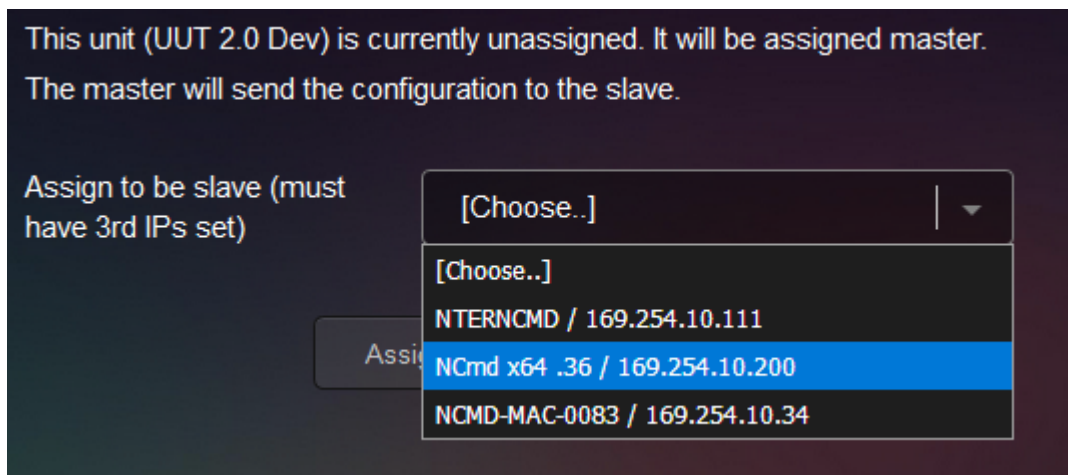

FIG. 56 Choose Slave
5. Navigate to **Admin > Master / Slave** on the master unit. Now that the 3rd IP addresses are configured, the menu shows other N-Commands it has found on the network and offers to configure them to be the slave. See Figure 56.